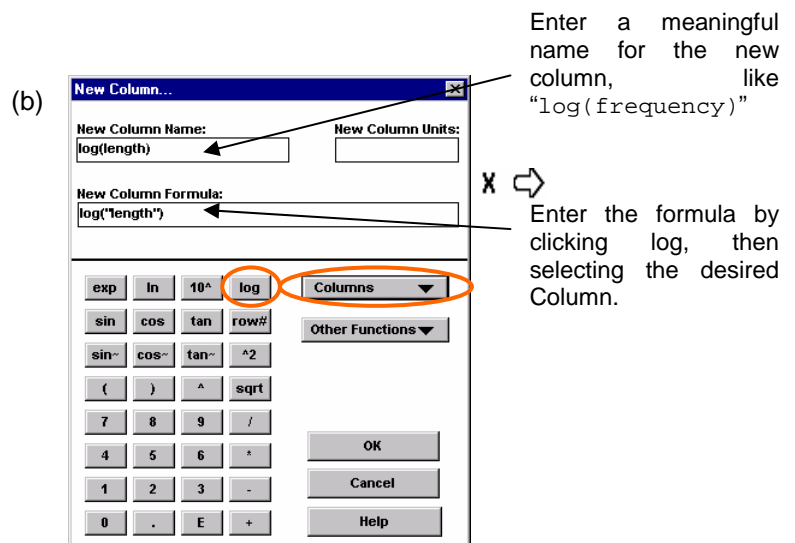

Figure 2-14. (a) Creating a new data column and (b) filling it with computed data.
- ❑ Create a new column as shown in Figure 2-14, with the logarithm of the data in the first column. Give the column a meaningful name,  $\log(\text{length})$ .